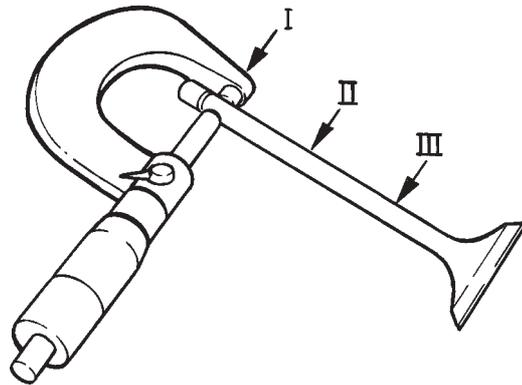

Fig. 18. Checking of valve spindle wear
3. Check the wear on the valve spindle. Measure the diameter with a micrometer at points I, II and III as per Fig. 18.